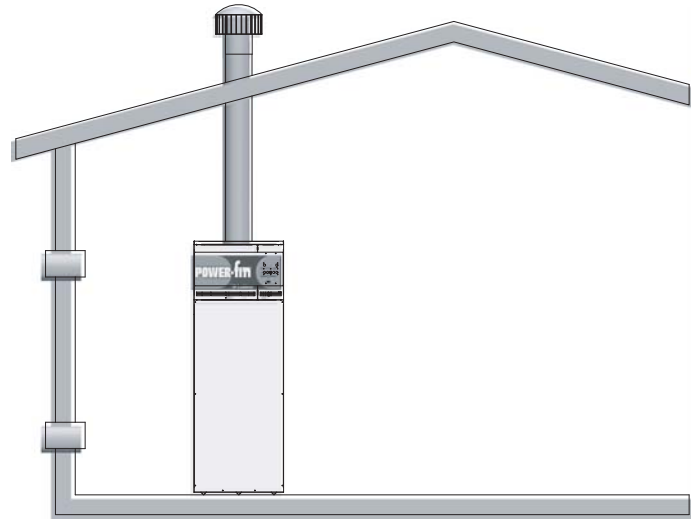

Figure 1-2 Combustion Air Direct from Outside
1. If air is taken directly from outside the building with no duct, provide two permanent openings to the equipment room (see FIG. 1-2):